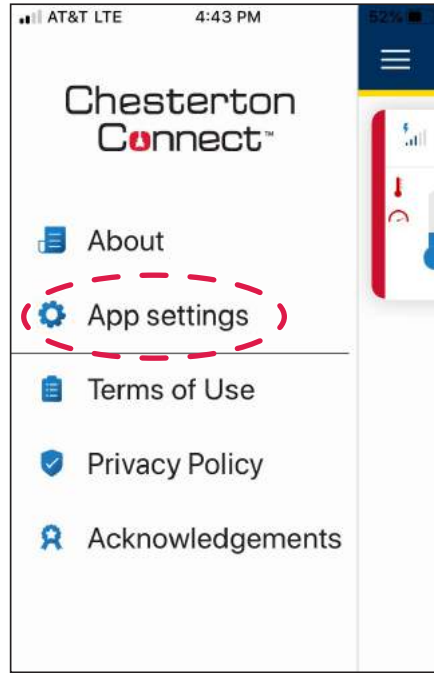

Figure 35
2. Select **App settings** (see figure 35).